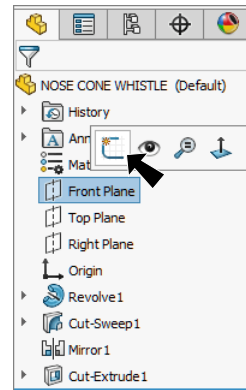

Fig. 36
Step 1. Click **Front Plane**  in the Feature Manager and click **Sketch**  on the context toolbar, **Fig. 36**.